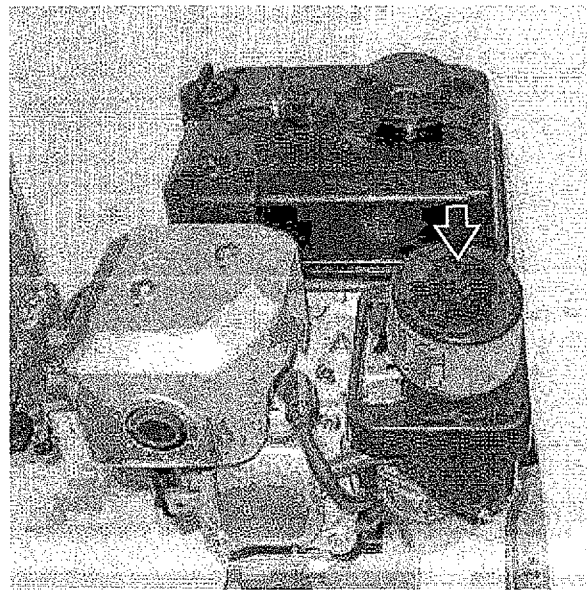

Figure 61 – Air Filter Element
5. Remove the air filter element and replace it (see Figure 61).